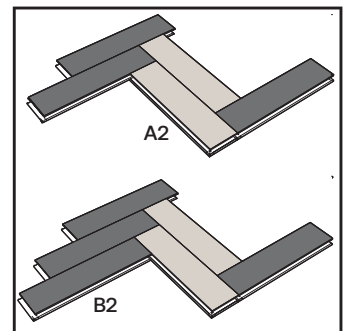

Figure 13
Install the next (B) panel in the first V-row of your floor using the same approach. See figure 13.